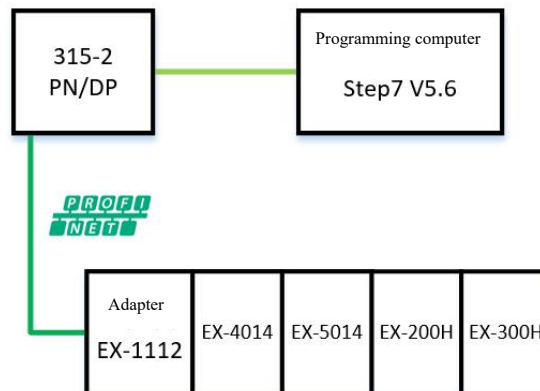

Figure 5-9-20 Communication connection diagram
1. Communication connection diagram, as shown in Figure 5-9-20.